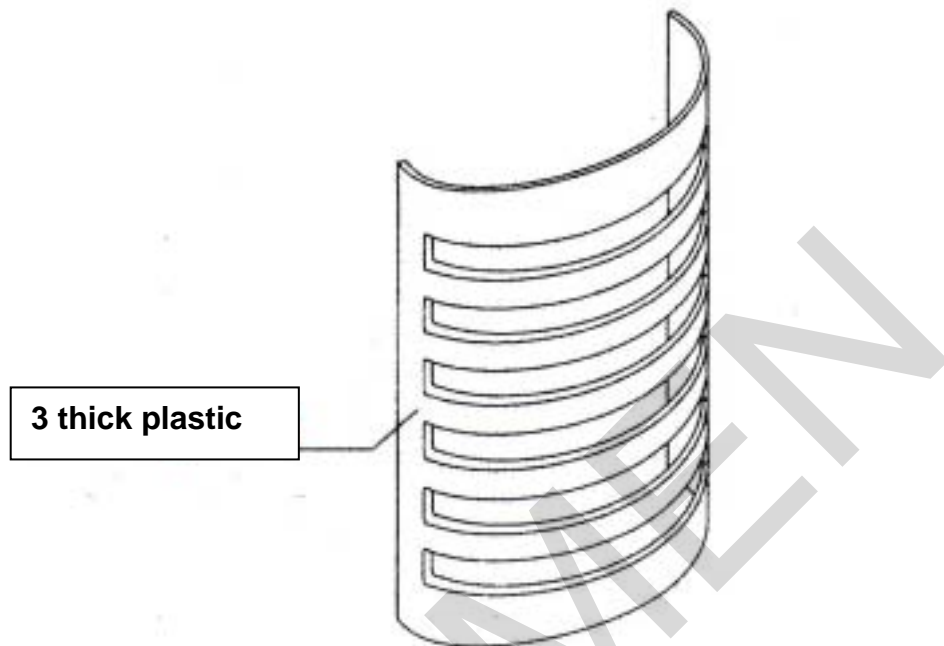

Fig.5
- 4 Fig. 5 shows a wall-mounted DVD rack. The DVD rack is produced by injection moulding.
Use sketches and notes to show how the DVD rack shown in Fig. 5 could be modified so that it could be wall-mounted. Include any constructional and/or assembly details.